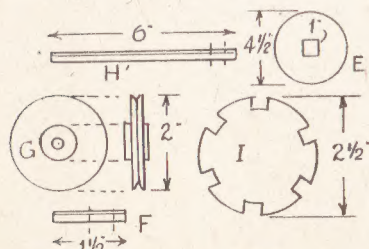

Fig. 2—The pulley parts
From $\frac{1}{2}$ in. wood cut the part (E), shown in Fig. 2. Push this over the pillar, removing the top part (A) first, and screw it from below (A), fixing it firmly to the latter part. From $\frac{1}{2}$ in. round wood rod, cut the spindle of the handle (F) and the shaft (H). Also from $\frac{1}{2}$ in. wood cut the round disc (G), and file a groove round its edge rather deeply.